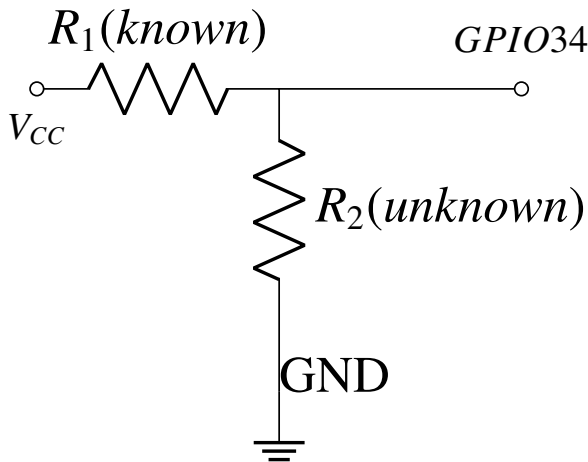

Fig. 3.3.1: Voltage Divider
- 3.3. Let  $R_1$  be the known resistor and  $R_2$  be the unknown resistor. Connect  $R_1$  and  $R_2$  in series such that  $R_1$  is connected to  $V_{cc}$  and  $R_2$  is connected to GND. Refer to Fig. 3.3.1
4.4. The Ohm meter in this manual works on the principle of the voltage divider shown in Fig. 3.3.1.